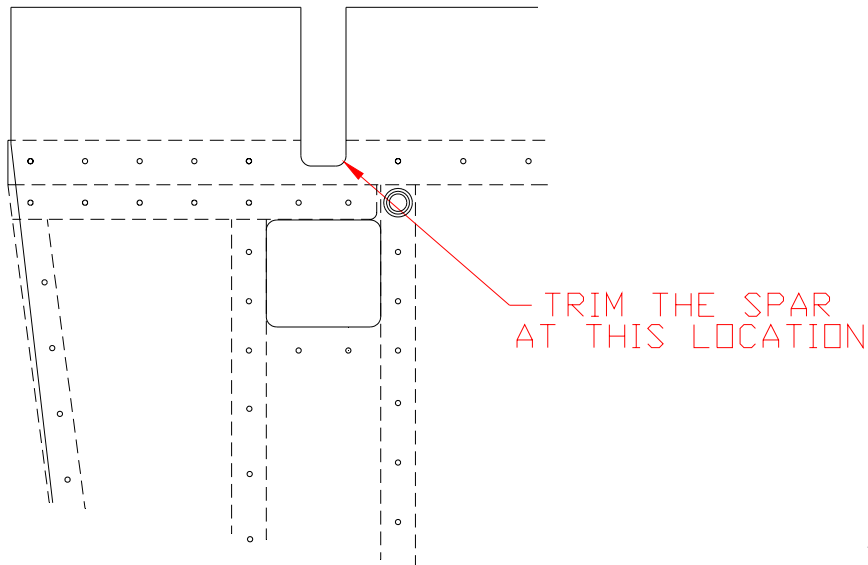

Figure 5.2.4
- 6) Using the Skin as a drill guide, drill and cleco the Spar to the Skin. Working from the center of the Spar to each end, drill #40. Cleco every 5 or 6 rivet holes. To ensure the structure remains level use weights to hold it in place. Layout and drill #40 three holes on the flanges of EL-318 using the existing holes on the Spar line as a guide. Figure 5.2.4
8) At the lower section of the Main Spar, trim out the area on both sides of the Main Spar using the Rudder Skin as a guide. Figure 5.2.4.